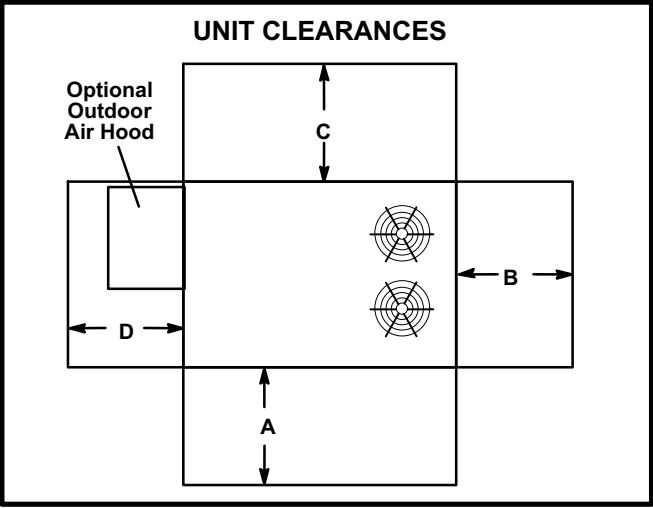

FIGURE 1
The KHA unit is ETL/CSA certified for outdoor installations only at the clearances to combustible materials listed on unit nameplate and in figure 1.
The KHA unit is ETL/CSA certified as a heat pump with cooling and with or without auxiliary electric heat for non-residential use only at the clearances to combustible materials as listed on the unit nameplate and in figure 1.
- 2- Specified installation clearances must be maintained when installing units. Refer to figure 1.